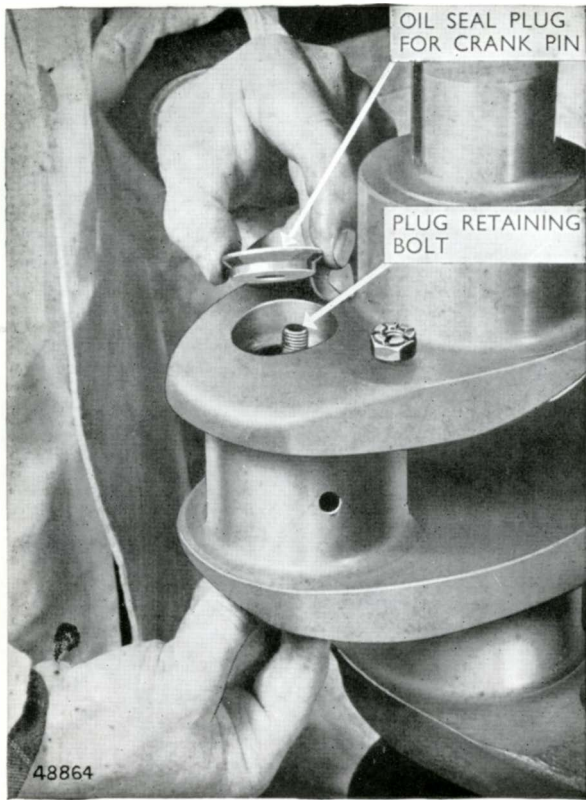

FIG. 45. REMOVAL OF OIL SEAL PLUG
2. Remove the oil seal plugs, Fig. 45, and flush out the oil passages and oil holes. Replace the seal plugs and bolts, **do not** use sealing compound on these plugs. Ensure that the nuts are split-pinned and smear the main bearing journals with clean engine oil.